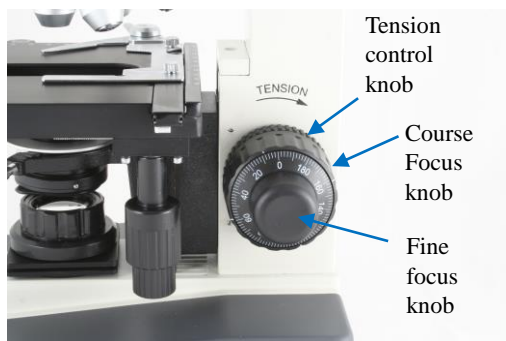

Fig.3
- (1) Move the objective 4X into the light path.
- (2) Rotate the coarse-focusing-knob until the image appears.
- (3) Turn the fine-focusing-knob to make the specimen clearer. (See fig.3)